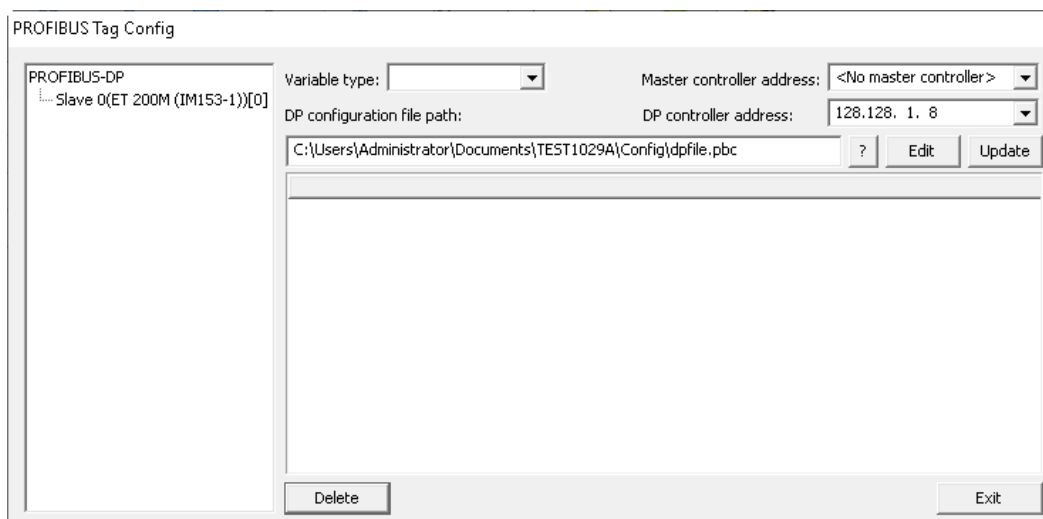

Figure 4-31 DP Configuration Tree
3. Click “Update”, then the DP configuration tree will be generated in left according to the DP file, as shown in Figure 4-31.